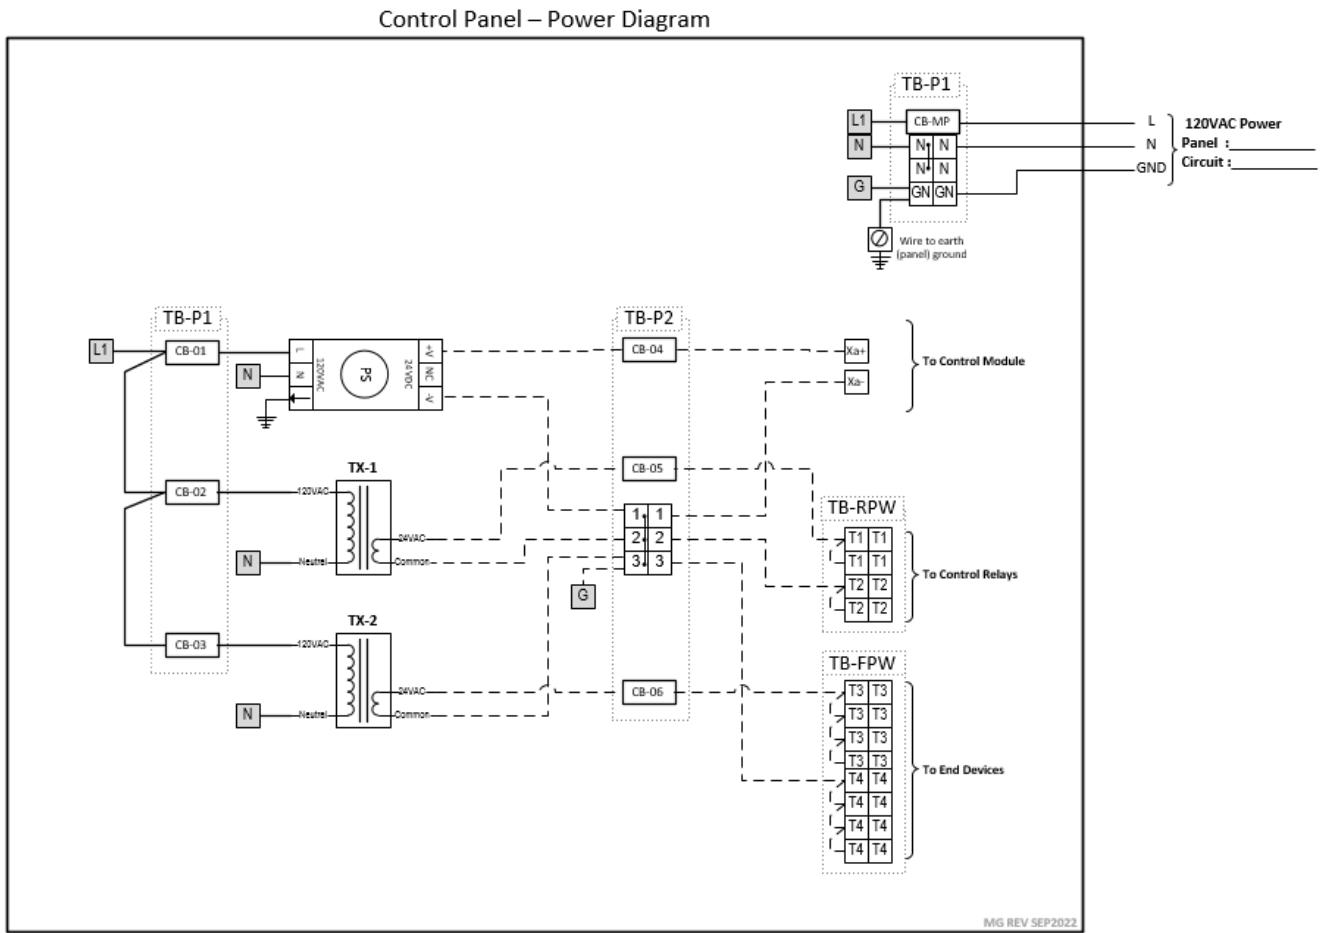

Figure: CPL-01A
• Circuit Breaker (CB)
The control panel must have a main circuit breaker (CB) whose label will be: CB-MP. This CB must be selected according to the total load that will be used in the control panel; see figure CPL-01A for a power diagram.
• Power Supply (PS)
another circuit breaker in the secondary circuit. The CB must be selected according to the amperage necessary to protect against overcurrent. See Figure CPL-01A for the power diagram.
Each 120 / 24 VAC transformer used in the control panel must have a circuit breaker in both the primary circuit and another circuit breaker in the secondary circuit. The CB must be selected according to the amperage necessary to protect against overcurrents. See Figure CPL-01A for a power diagram.